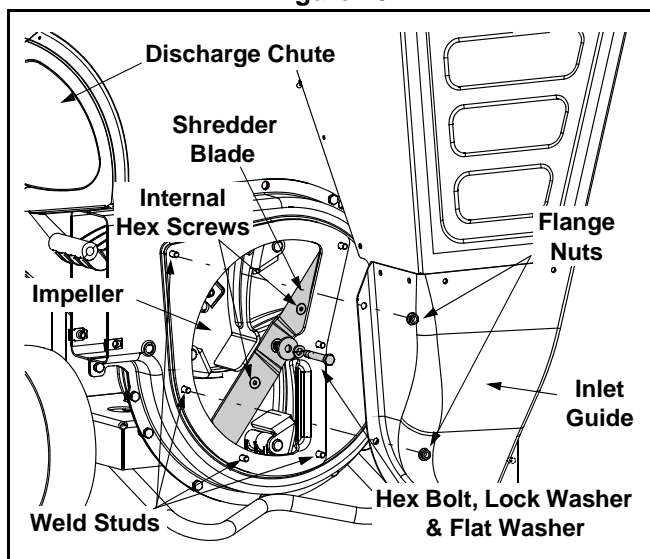

Figure 11
- Remove the six flange nuts which secure the hopper inlet guide to the impeller housing. See Figure 11.
- Remove the two internal hex screws which secure the shredder blade to the impeller. See Figure 11.
**NOTE:** Use a 3/16" hex key (Allen) wrench on the outside of the shredder blade and a 1/2" box (or socket) wrench on the inside of the shredder blade. See Figure 11. Hold the Allen wrench stationary and rotate the box (or socket) wrench to loosen the nut.